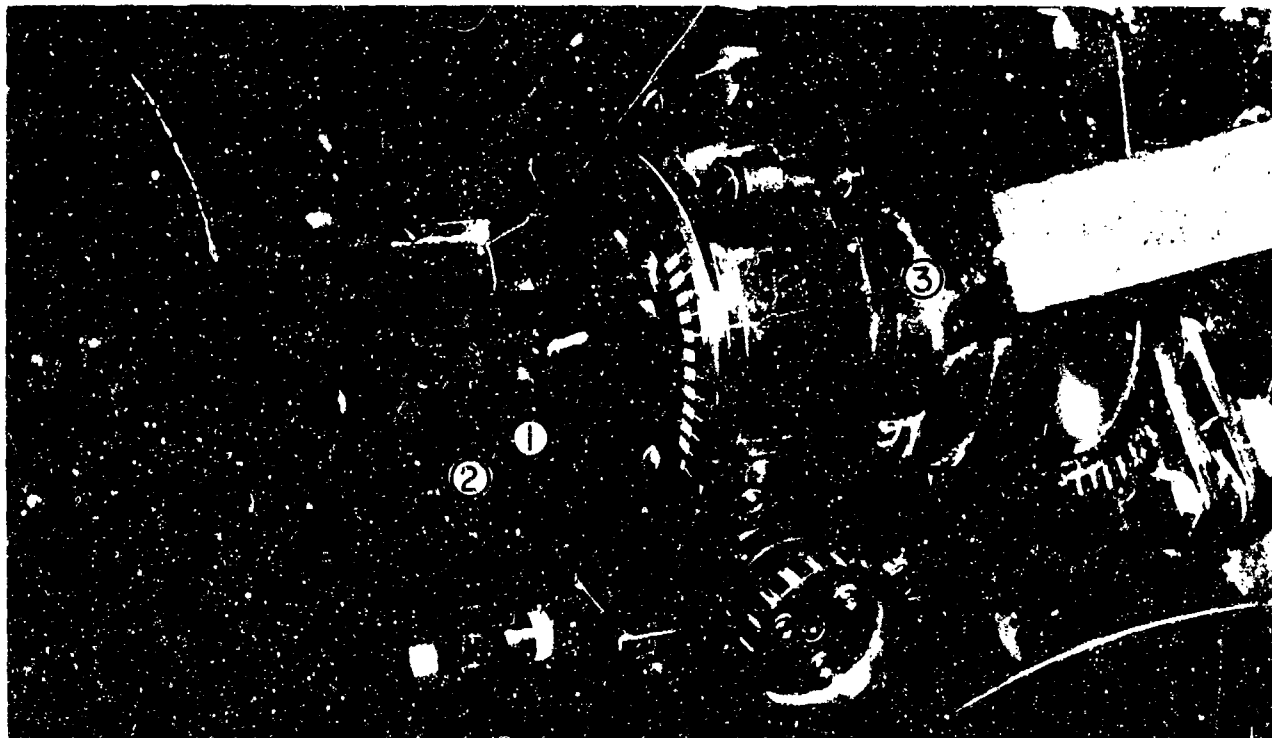

Figure 5-33. Scribe lines for positioning mount.
d. The scribe lines should be placed on the weapon after fire control alinement tests have been performed with the tube and the sights in perfect alinement. While the tube is in this alinement for the fire control alinement tests, the following scribe lines (fig 5-33) should be placed on the weapon:
(1) Straight across the junction of the cross-leveling segment and the cross-leveling worm housing of the panoramic telescope mount.
(2) Straight across the junction of the cross-leveling worm knob shaft and the cross-leveling worm housing.
(3) Straight across the junction of the inner and outer rings of the sight mount.